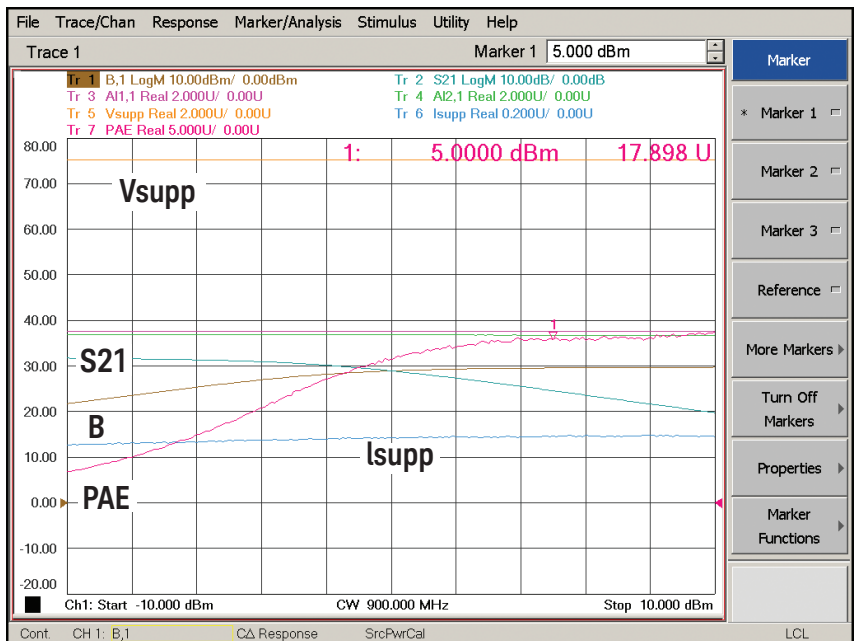
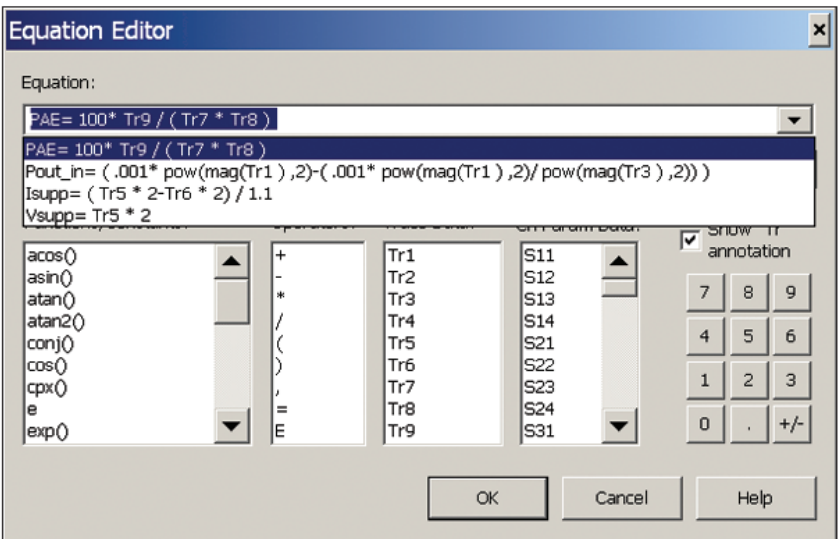

Figure 3. Measurements made over power sweep, including PAE.
Figure 4. *Equation Editor* can be used to display traces on the PNA-X, such as PAE, by using other traces already on the screen.
Figure 2 shows measurements made over frequency and Figure 3 shows measurements made over power, with Figure 4 showing the equation used via the *Equation Editor* to display the value of PAE. In Figure 2, the top window shows:
- **PAE**, value of power added efficiency being displayed in percentage using *Equation Editor* (trace 9). Details of equation can be seen in Figure 4.
Using frequency sweep, one can locate the optimal frequency point of operation, such as maximum PAE. For this particular AUT, Figure 2 shows that the best frequency for operation is around 900 MHz, with 16% PAE. With this information, one can then switch over to power sweep to find the optimal operating point. As shown in Figure 3, the efficiency of this AUT increases significantly up to 4 dBm, after which point, the increase is rather small. The traces shown in Figure 3 are a subset of those in Figure 2. Nonetheless, as illustrated in these two figures, the PNA-X can help to reveal a lot of information during the design and test phases of power amplifiers.